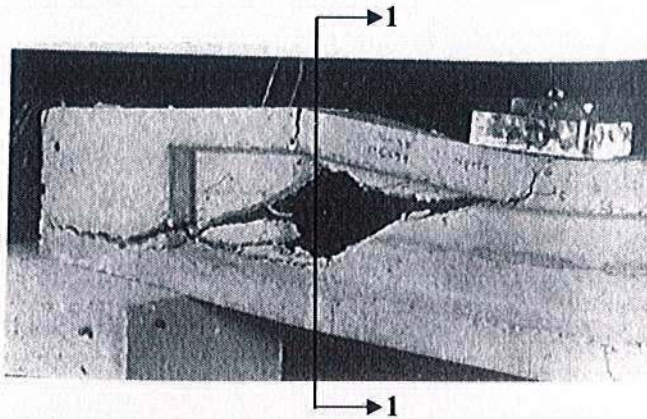

Fig.2i (Sozen, Zwoyer and Siess 1959)
3.a) Identify the type of shear cracking at section 1-1 of the prestressed girder shown in Fig.2i below.
b) Fig.2ii shows the simplified longitudinal and cross section of the same girder. Based on the answer to 3.a), check the shear strength at section 1-1, which is 1.5 m from the left support. The symmetric I-shaped non-composite section spans 12 m and the c.g.s. of the straight tendon is 135 mm from the bottom fiber.
Fig.2ii